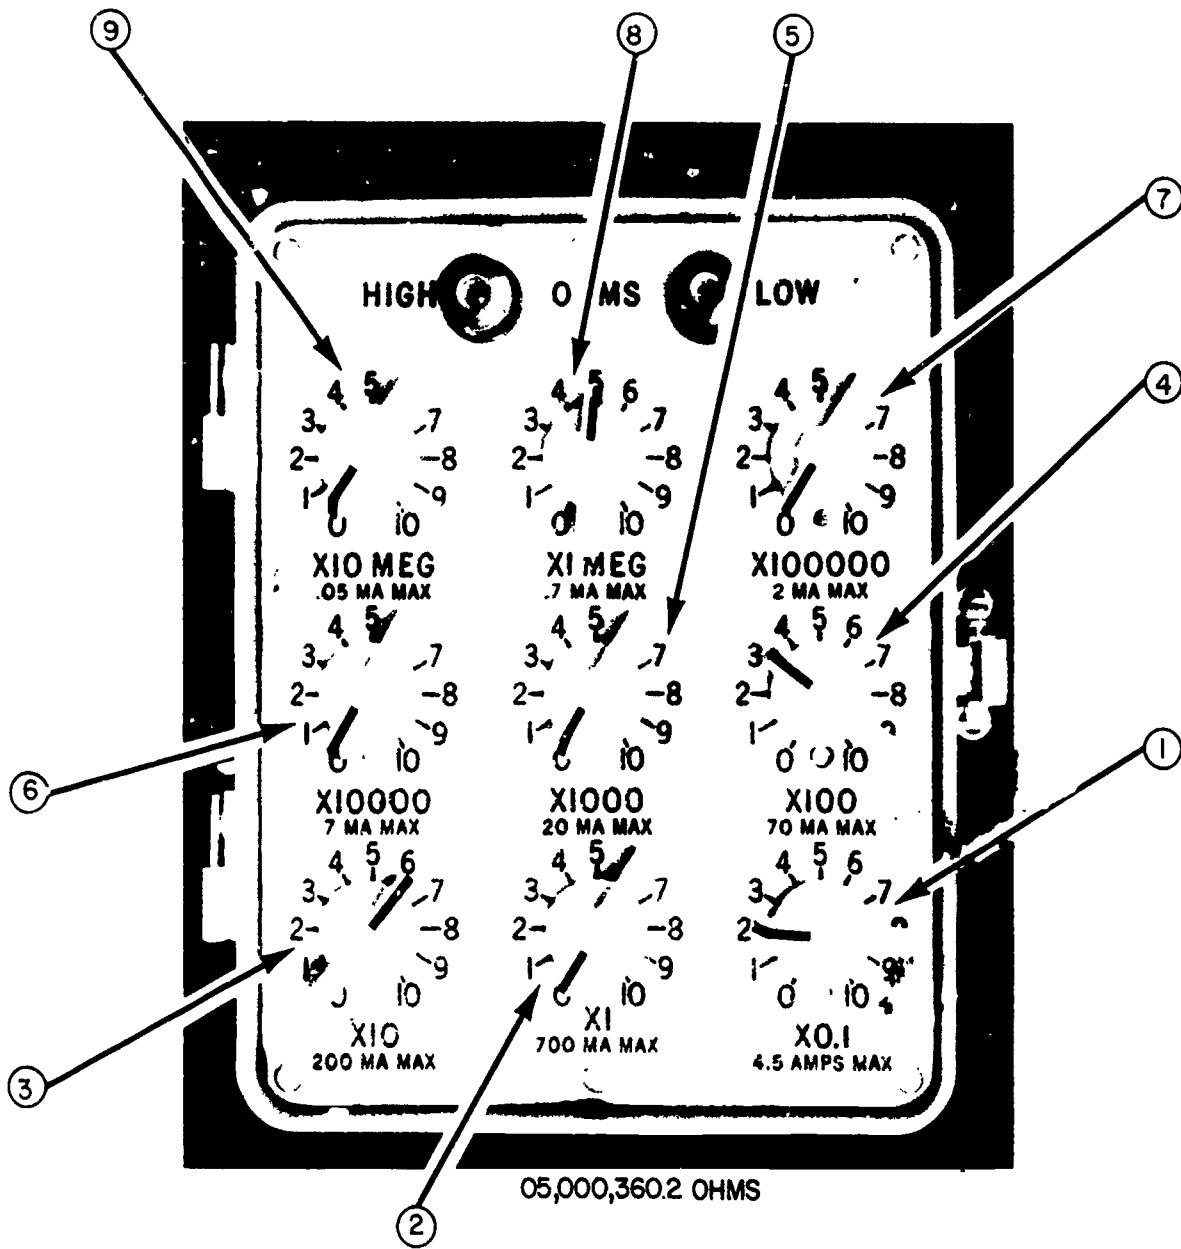

Figure 1. Panel Face.
Decade Switch Control Setting - These are numbers you will find around the outside of each switch. These range from 0 through 10. See figure 1 on page 4.
Decade Switch Designation - This is written below each switch on the panel face. See figure 1, page 4.
You will find figure 1 decade switch control settings will also be shown in figure 2 beside each decade switch designation. Compare what you will find in figure 1 to figure 2. You will only study this exercise and not be required to make any entries.
The (X) in the decade switch designation in figure 2 and on the panel face of figure 1 means to multiply the decade switch control setting times the decade switch designation to find the decade switch total ohms. After you have found each decade switch total ohms you must add these totals to find the total decade value of 5,000,360.2 ohms.
Example for switch one (X0.1), figure 1. The decade switch control setting for (X0.1) from figure 1 was placed in its column in figure 2. Multiply times the decade switch designation (X0.1) for an answer of 0.2 ohms, for the decade switch total ohms. This same procedure is followed for the rest of the nine switches. Then all the decade switches total ohms are added for the decade total ohms of 5,000,360.2 ohms.